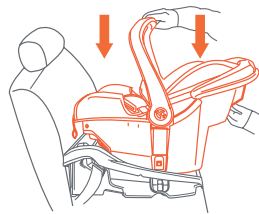

Fig. 45-1
2. Remove the Safety Seat from the base by squeezing the base release handle located under the center of the head end of the Safety Seat and lifting upward on the Safety Seat (See Fig. 24-1). **Store both UAS lower connectors as shown in Fig. 45-1.**
10. If you are using the Base, check that nothing is on top of the base, or anything that will interfere with the proper latching of the Safety Seat to the Base. Place the Safety Seat onto the Base and push down until the Safety Seat latches securely to the Base and you hear a click (Fig. 45-1). **Pull upward on the Safety Seat to check that the Safety Seat is securely latched onto the base (Fig. 45-2).**